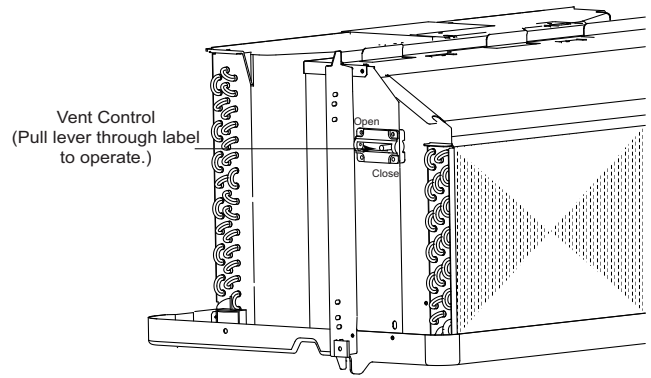

Fig. 16 – Ventilation Control Location
- Use wire clamp to attach power cord to basepan. Secure with screws (included) See Fig. 16.